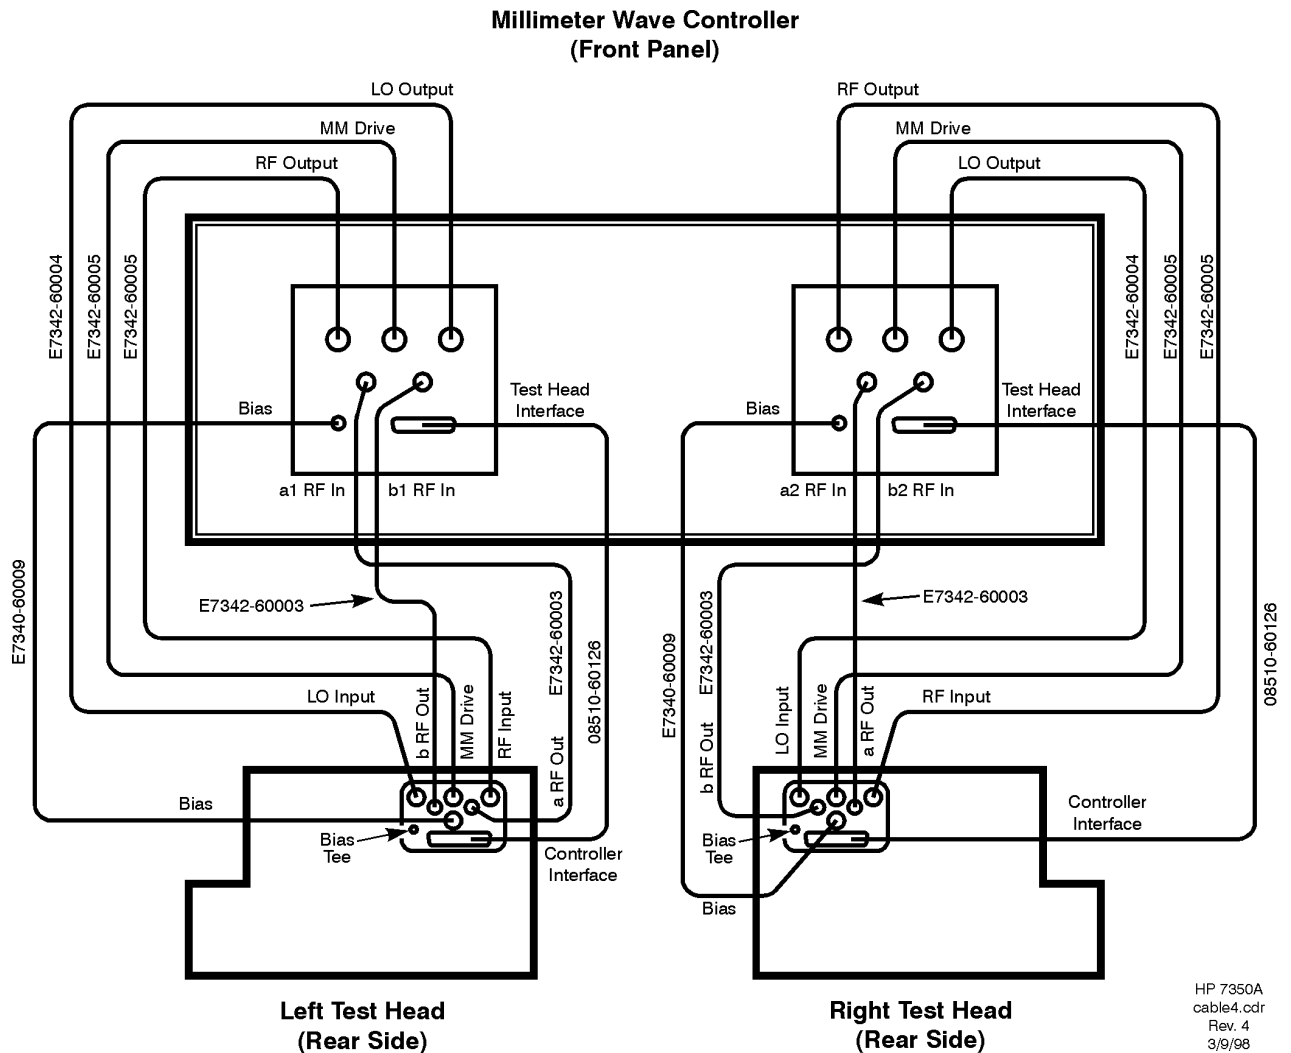

Figure 3 Controller to Test Heads Cabling
2. Connect the cables as shown in Figure 3. Installation of these cables may require a long, 5/16-inch open-ended wrench.